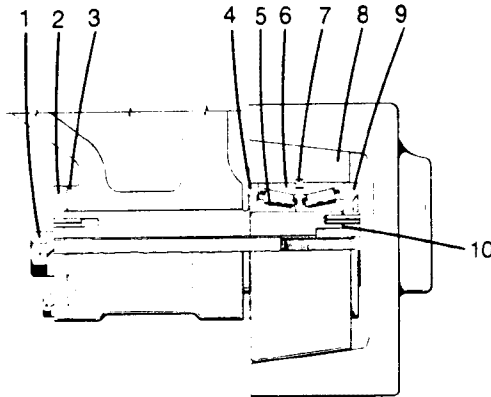

Fig. 1
- Install sling assemblies on the machine. See Fig. 1, and steps a, b, c, under undocking procedure.